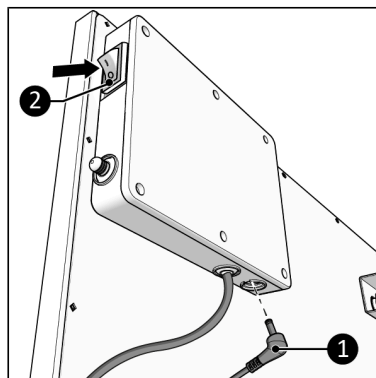

Figure 32.
1. Make sure the ON/OFF switch is in the OFF position (Figure 32, pos. 2).
2. Connect the external temperature sensor connector (Figure 32, pos. 1) to the sensor plug.